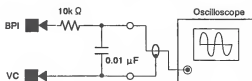

Fig. 6-3
1. Connect the oscilloscope to test point BP IN as shown in Fig. 6-3.